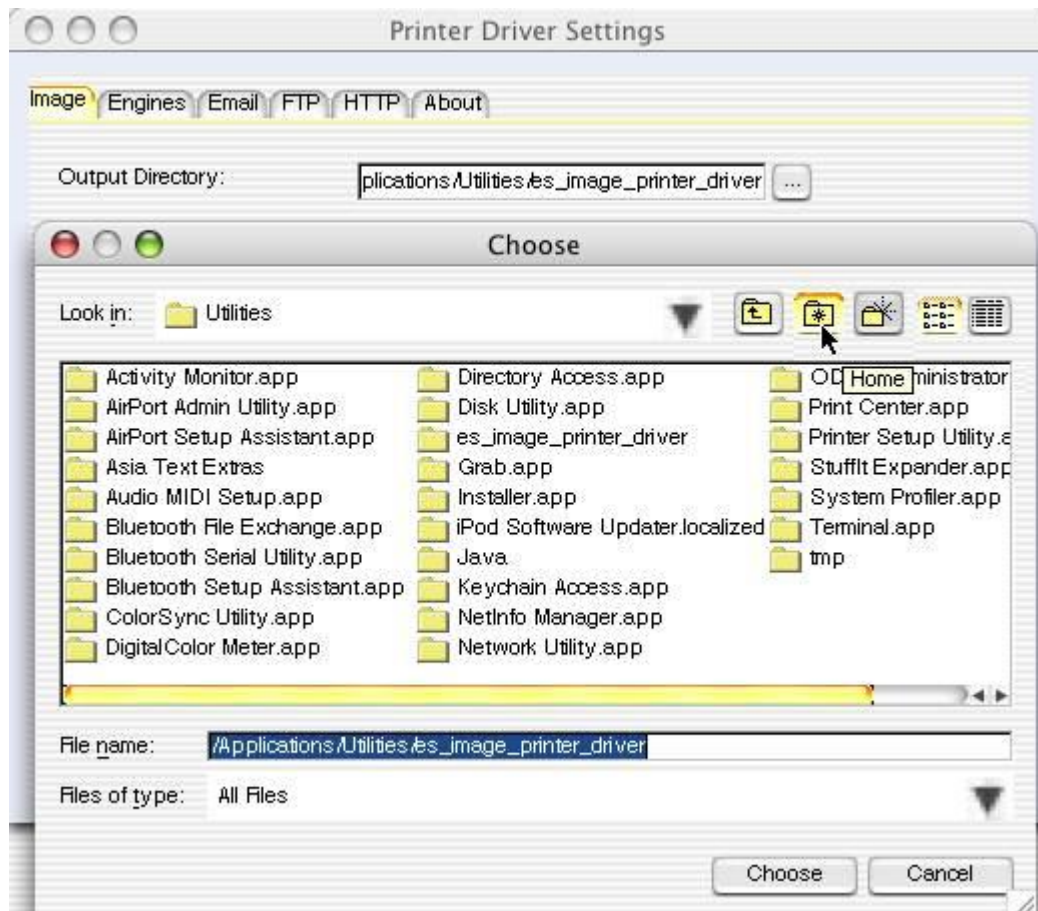

FIGURE 1b
1) Output Directory – This is the directory to save the produced images to. It can be any standard Windows drive, such as ‘c:\myFiles’, or it can be a UNC pathname such as ‘\\winserver\C\uploadarea’. The optional button showing ‘...’ next to the Output Directory displays a file dialog (Figure 1b below) where one can pick the directory with a graphical user interface.